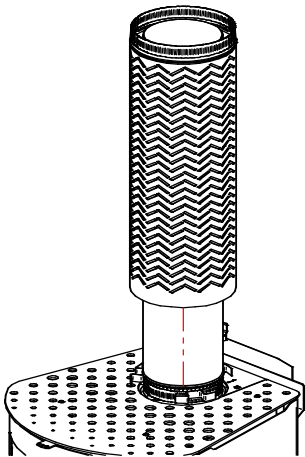

Figure: 6
5. Hang the flue shield assembly onto the hooking bracket behind the flue pipe as shown in Figure: 6.